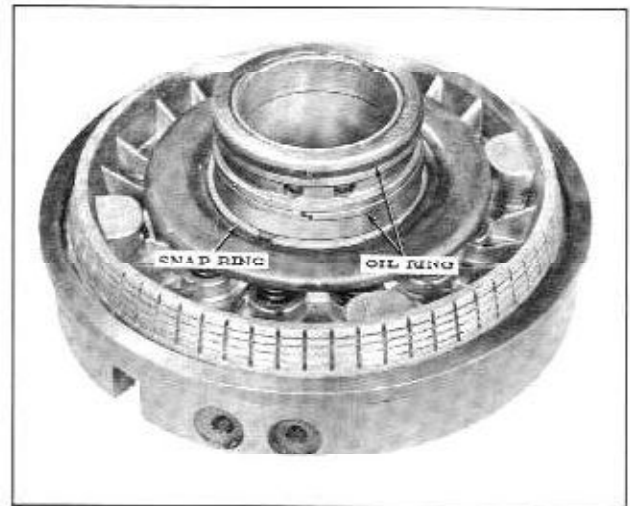

Fig. 3-57 Removing Case Support Oil Rings
1. Remove two lock type oil rings from case support. (Fig. 3-57)